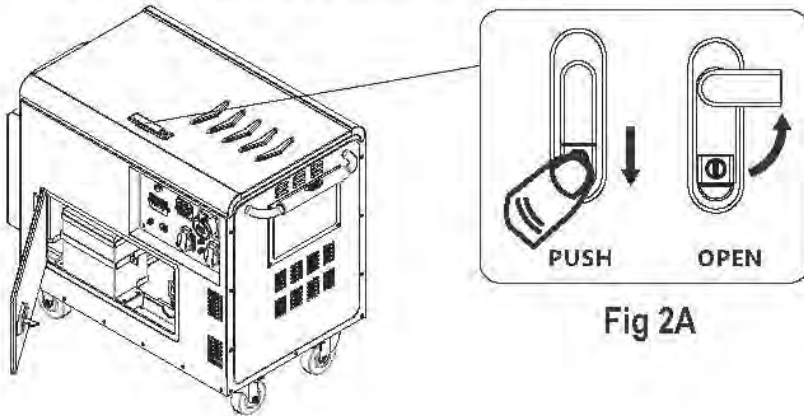

Fig 2A
- Play open the lock.(See Fig 2A)